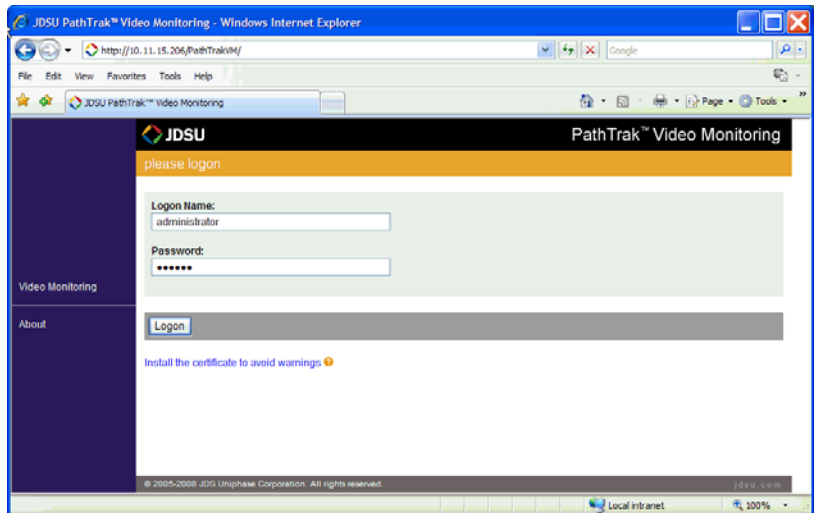

Figure 62 PathTrak™ Video Monitoring logon page
- 3 On the PathTrak™ Video Monitoring logon web page Logon Name text box (Figure 62), type **your logon name or the default logon name**.